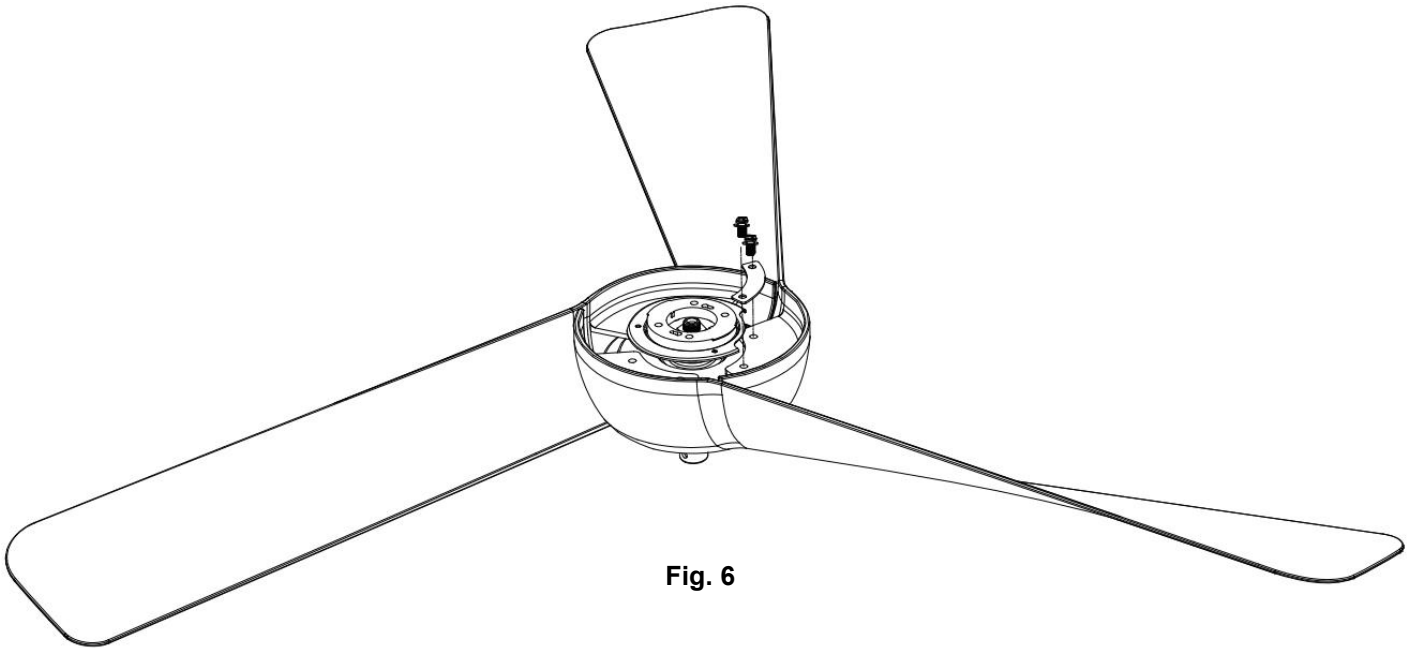

Fig. 6
4. Orientate the blade Support plate and fan blade onto the bottom of fan assembly (Fig.6)
Mount the fan blade onto the fan assembly using the two big screws of blade with lockwashers (Fig.6).